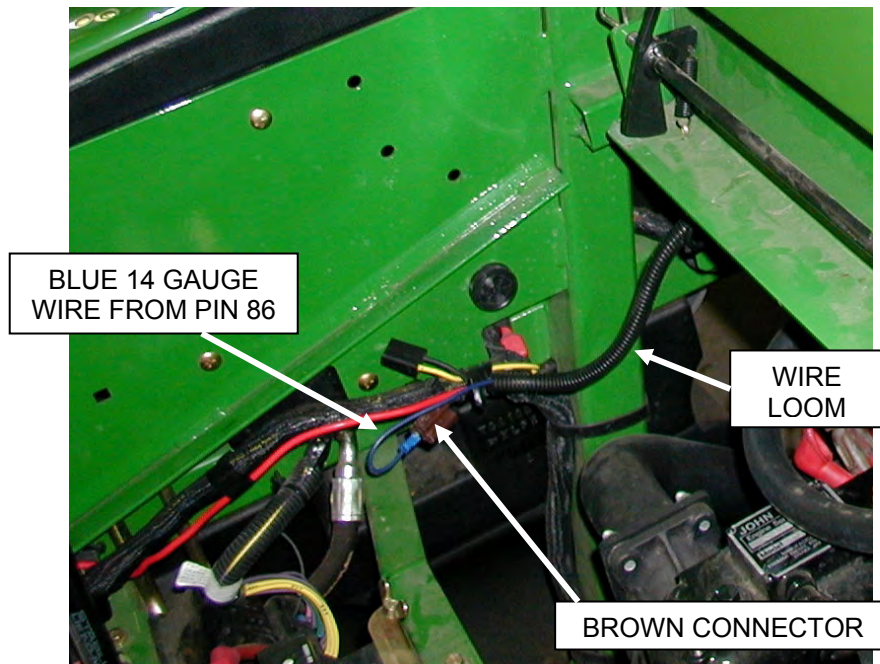

Figure 3-10
- 3.10) Connect the blue 14 gauge wire from relay pin 86 to an ignition-on power source that becomes energized when the ignition key is turned on. (See figure 3-10).